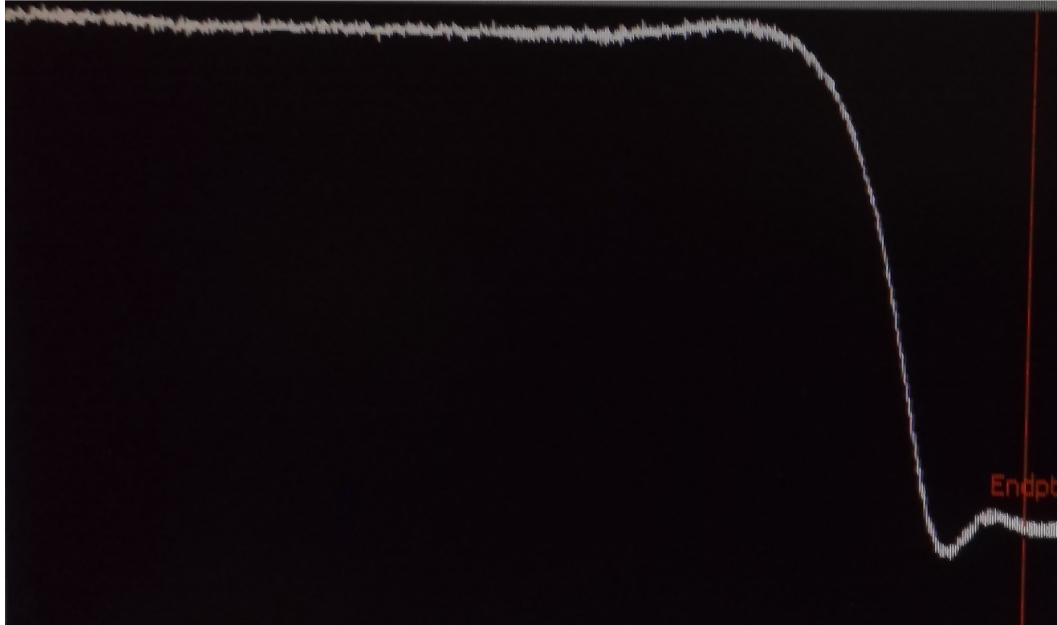

Figure 1: Typical endpoint signal of Nb etch. The small peak after the dip is interpreted as the end of the etch. Endpoint is called 10 s-20 s after that.
- Use endpoint; typical signal shown in Fig. 1